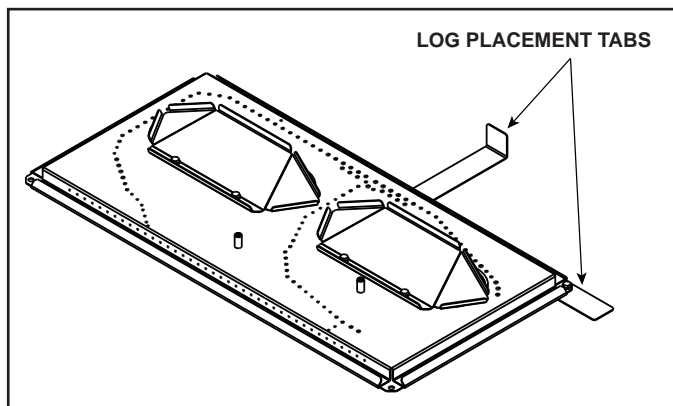

Figure 12. Log Placement Tabs - (QFI35FB-KIT Only)
29. **FOR QFI35FB-KIT ONLY:** Install log placement tabs on back and side of burner as shown in Figure 12. Refer to existing burner for screw locations.
30. Install log placement tabs on back and side of burner as shown in Figure 12. Install the burner so that the back of the burner slides under the pilot sensor rod and the burner orifice is enclosed in the burner tube. Align the burner assembly so that it is parallel with the back wall of the firebox. Secure burner with one self-tapping screw in the back right corner. Fill the hole used to attach the previous burner with a screw. See Figure 4.